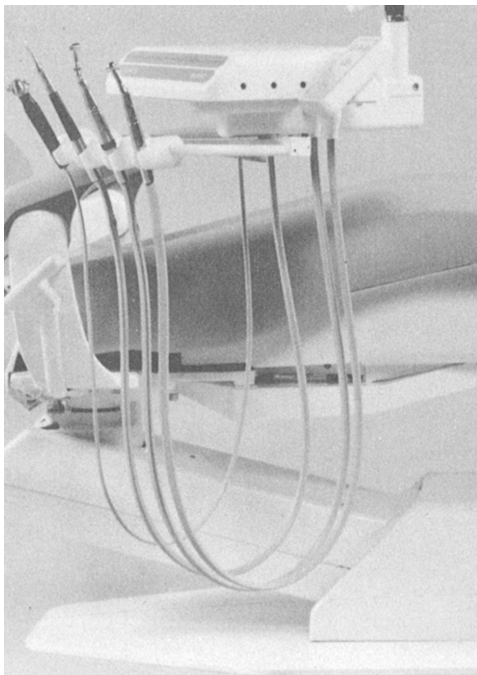

Figure 11-6.—Handpiece controls.
**HANDPIECE CONTROLS.**—Most handpiece controls are located on the bracket tray that can accommodate three handpieces (fig. 11-6). The water coolant flow and maximum drive pressure are individually adjustable for each handpiece.